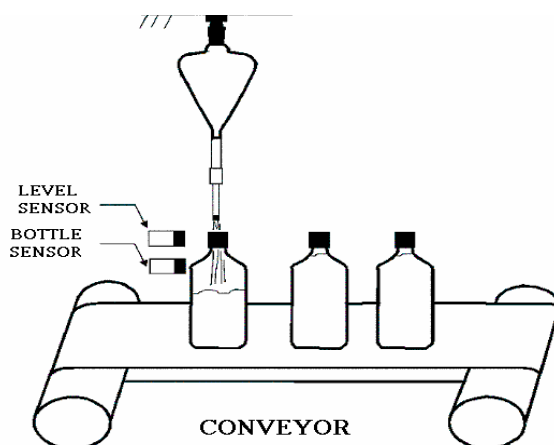

Figure 2.68 – Application Example of Bottles filling up
1) According to the Figure 2.68, we have an industrial application where the aim is to fill up the bottles with a chemical fluid. The conveyor moves the bottles up to the filling direction and then the bottle is detected by a sensor. The conveyor must stop and open the valve of filling and the level is detected by another sensor. After detecting the level, the system must wait for 10 seconds and then moves the conveyor again until the next bottle.